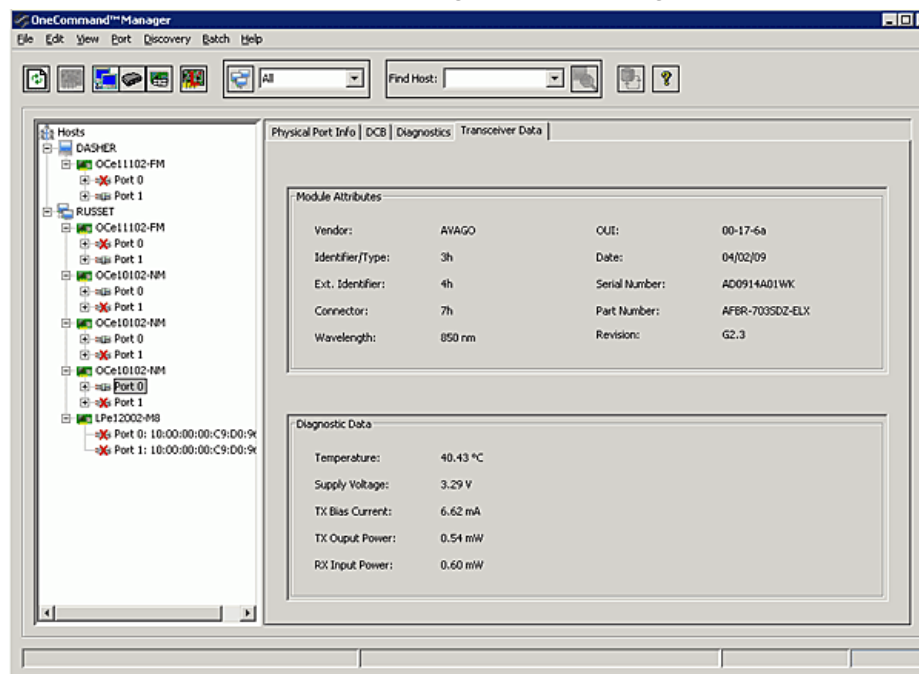

Figure 7-18 OneConnect Transceiver Data Tab
When you select a OneConnect adapter port from the discovery-tree (Figure 4-3 on page 40), the Transceiver Data tab (Figure 7-18 on page 89) enables you to view transceiver information such as vendor name, serial number, part number and so on. If the adapter/transceiver does not support some or all of the transceiver data, the fields display N/A.
3. Select the **Transceiver Data** tab (Figure 7-18 on page 89).